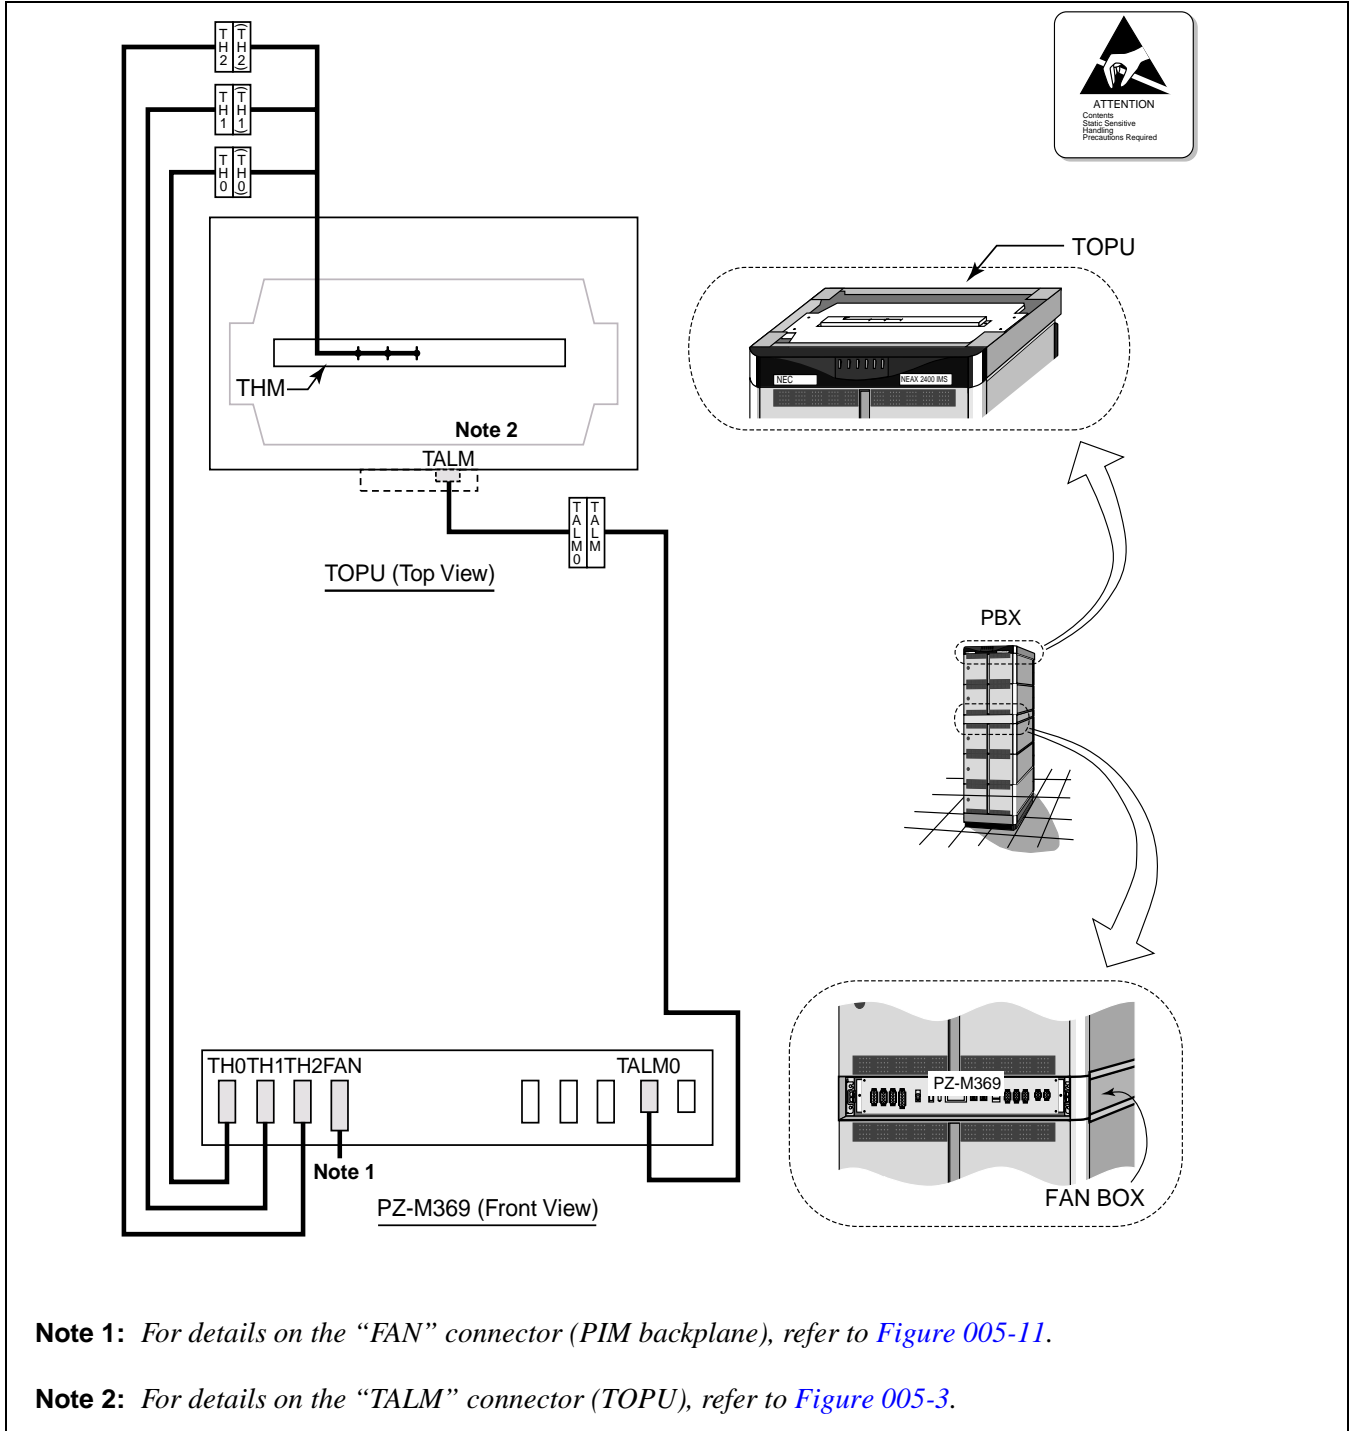

Figure 005-10 Cable Connections for FANU in FAN BOX
STEP 6: Connect the remaining FAN cables as per Figure 005-10 and Figure 005-11.